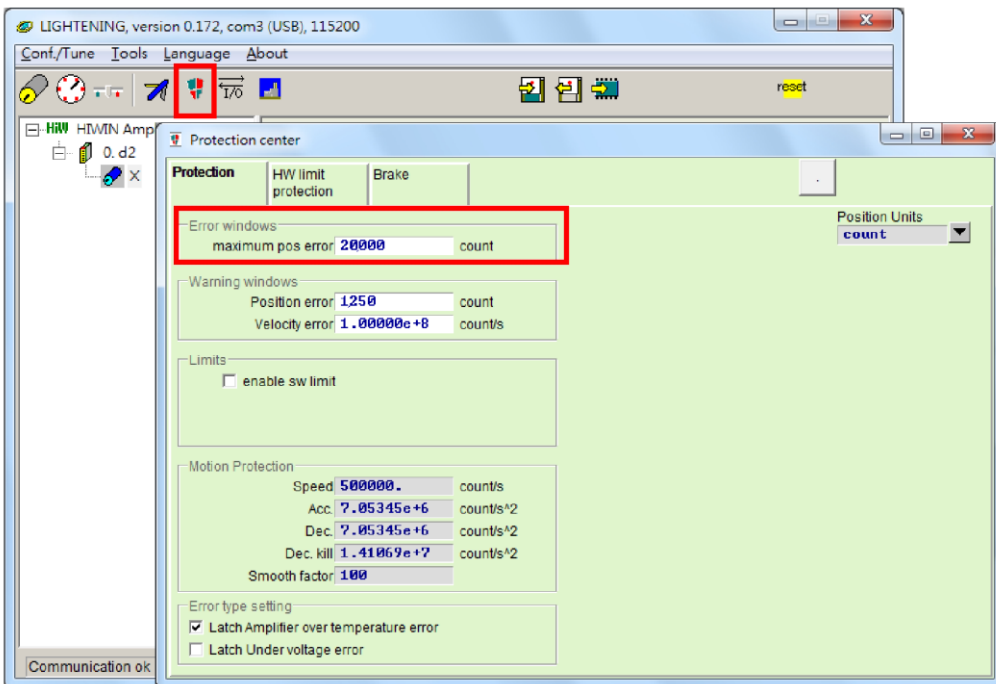

Fig. 9-8
- (1) The max. position error can be modified according to the steps as shown in Fig. 9-8.
- (2) It is not recommended to set the position error higher than the default setting. Adjust the servo stiffness if E03 PEBIG appears with the default setting in use.
- (3) If no Hall sensor is used and the max. position error is to be modified by searching